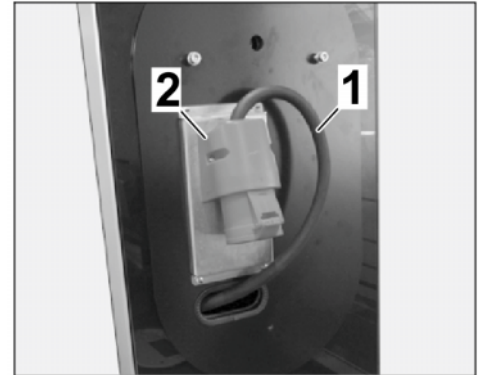

Figure 21
4.5 Connect cable ⇒ *Figure 21 -1-* to the country-specific electrical socket ⇒ *Figure 21 -2-*.